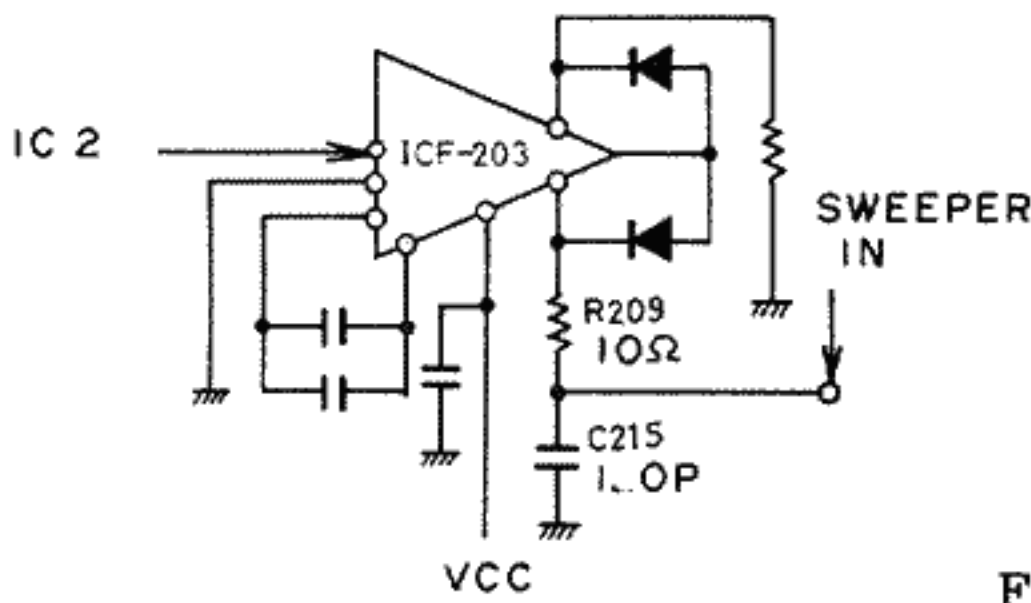

Fig. 13
- Connect FM IF Sweeper Output as explained before and Input between R209 and C215. (See Figs. 13 and 16.)